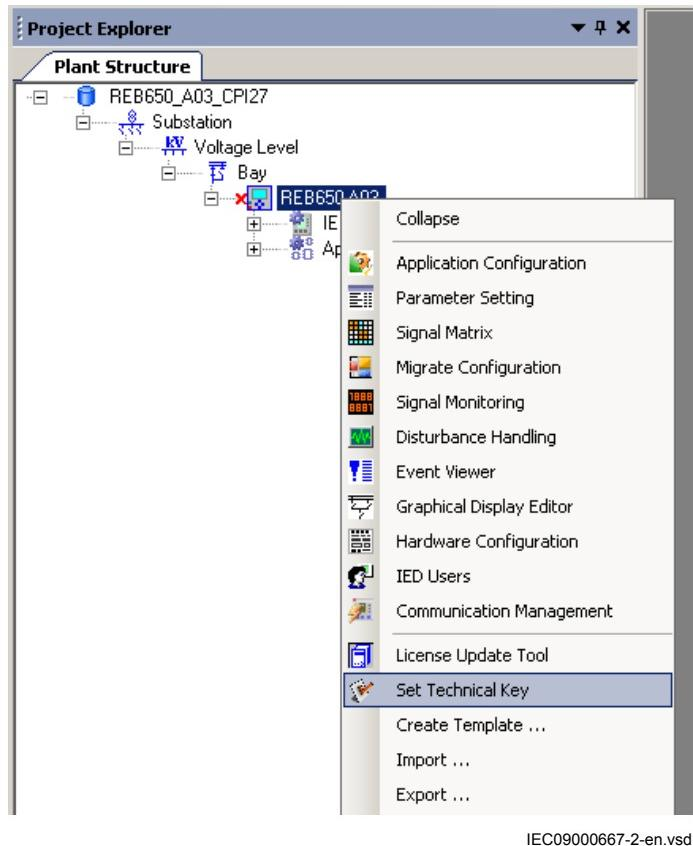

Figure 6: PCM600: Set technical key menu at IED level
2. Right-click and select *Set Technical Key*, see Figure 6.